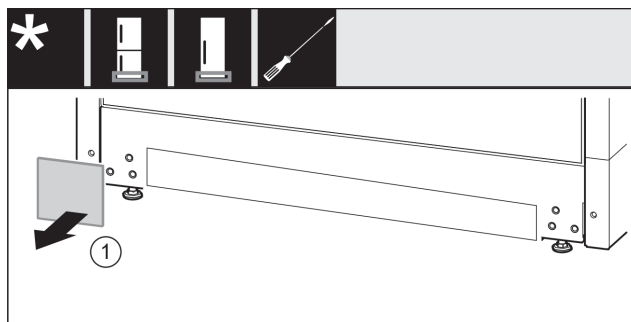

Fig. 12
- Take off the cover. *Fig. 12 (1)*